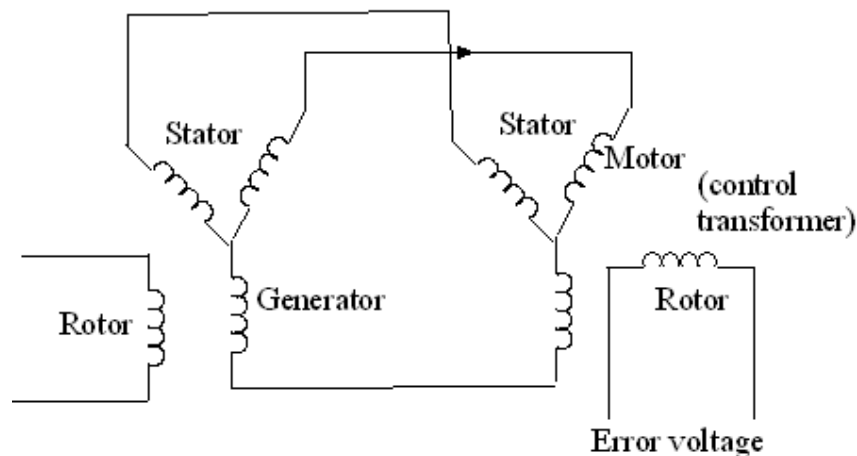

Fig P3
- for indicating the difference in positions, as generator – transformer combination (Fig P3)
**Selsyns as position indicators:** If the circuit to the rotor of the motor is opened (Fig P3) a voltage will be produced in the rotor winding, the magnitude of which is a function of the angular position of the rotor of the motor w.r.t. that of the generator rotor. When the motor rotor is at a position of 90 electrical degrees from the position occupied and the rotor is electrically connected and free, the magnitude of the rotor voltage will be zero. Then any movement of the generator rotor will produce a voltage in the motor rotor which is a function of the angular position of the generator rotor (or other equipment coupled to it). This circuit has found use in many servomechanism systems. For this application the motor unit serves just as a control transformer.
A third useful application of the selsyn system is that of the differential selsyn shown in Fig P4; this is constructed like a wound rotor induction motor having a 1:1 ratio of turns. When the rotors of the motor and generator of Fig P3 are in a given position, the differential selsyn will adjust the position of the rotor to its stator such that minimum current flows in its windings. With the rotor of the motor locked in a particular position, a change in the position of the generator rotor will cause a corresponding change in the position of the rotor of the differential selsyn. In this way the circuit of Fig P4 performs the same function as that shown in Fig P3.